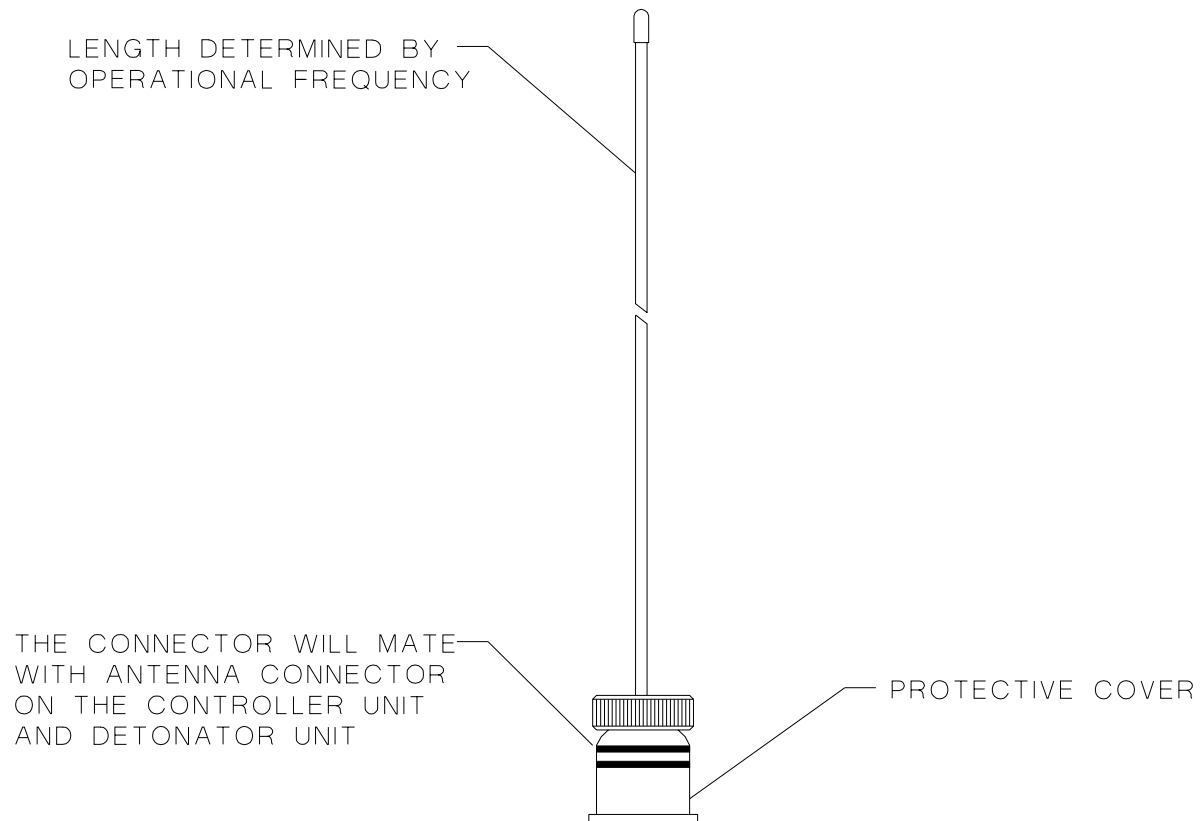

Figure 2-5 Antenna Assembly.
2.7.1. Figure 2-5. Provides the physical size, technical requirements and view of the Antenna Assembly. The power to the Controller Unit and Detonator Unit is interrupted when the Antenna Assembly is not connected.